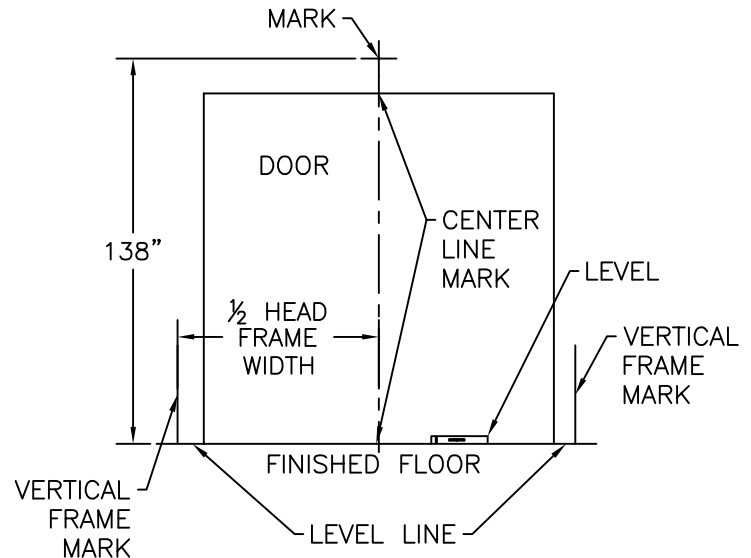

FIG. 3
a. Measure and mark center of dock door opening (Figure 3).